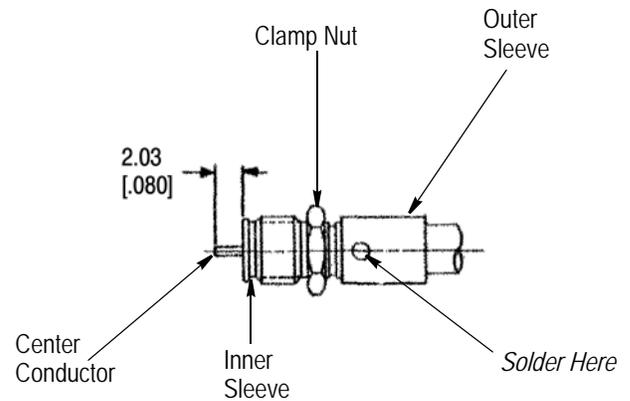

Figure 3
5. Hold the cable firmly seated, and solder the outer sleeve in place. See Figure 3.